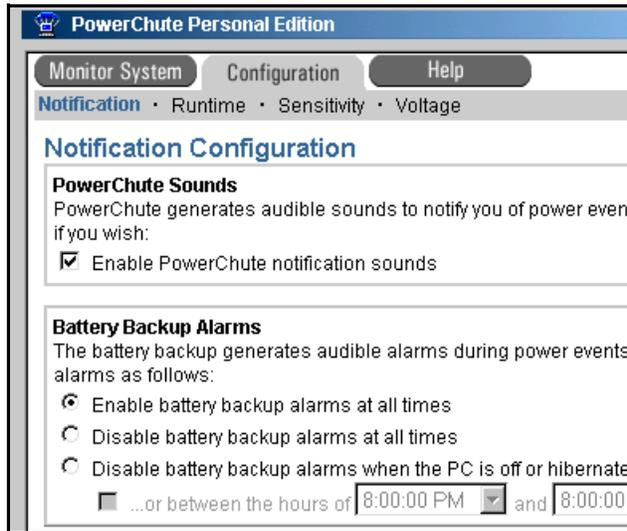

FIG. 2
2. Select the Configuration Tab. In the **PowerChute Sounds** box select “Enable Power Chute notification sounds”. In the **Battery Backup Alarms** box select the “Enable battery backup alarms at all times”. See FIG. 2.